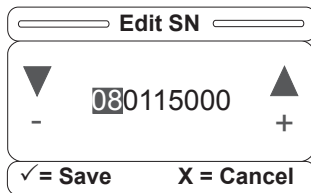

Figure S-26
27. Once the bed up/down lock button is pressed, the highlighted sections will change as indicated above in Figures S-26, 27, 28 and 29. Hold down "Enter" on the footboard panel for two seconds to save the serial number or press "Exit" to cancel the operation.